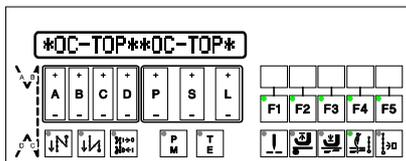

Fig.7.4
**Control panel OC-TOP (Fig.7.4 - optional)**